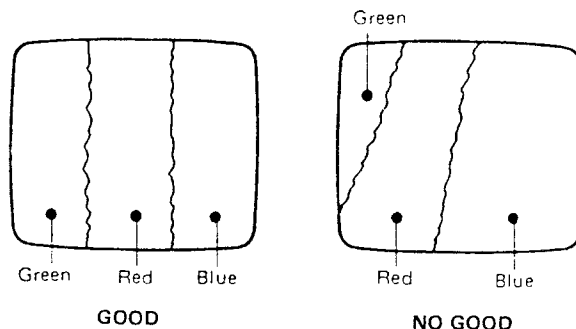

Fig. 4-2-4
- While observing Video Monitor, adjust purity magnets (Fig. 4-2-3) so that the red area positions at center of CRT screen. (Fig. 4-2-4)